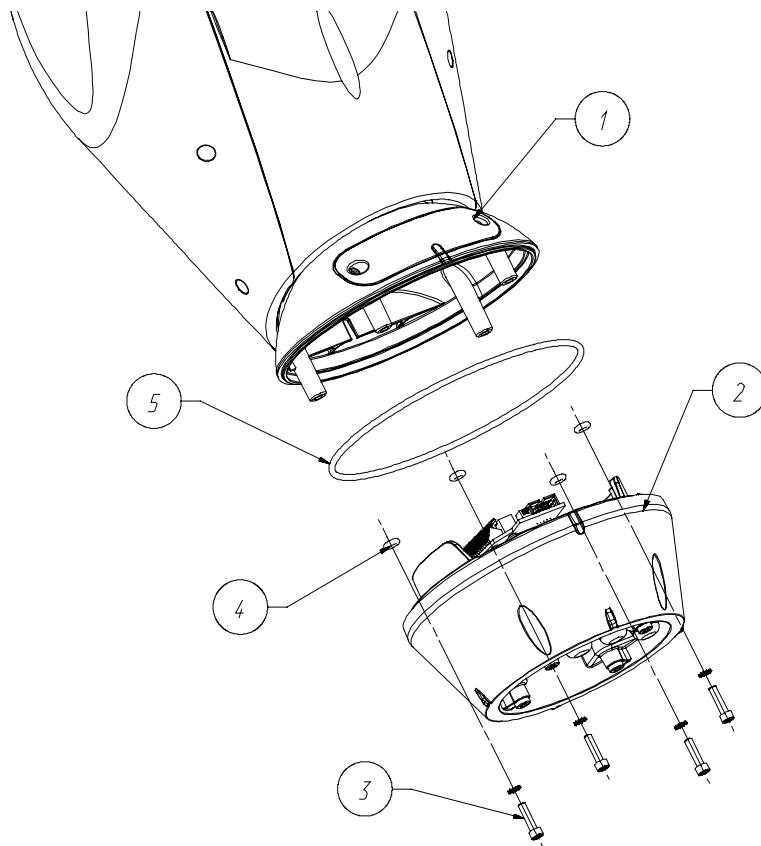

Fig. 6.3 Attaching the Top Unit
6. Attach the top unit to the base using the supplied attachment screws and corresponding seals (see *Figure 6.3*).
1. Open the configuration window by unscrewing the screws with a 3 mm Allen wrench. See *Figure 6.3* for the location of the configuration window.